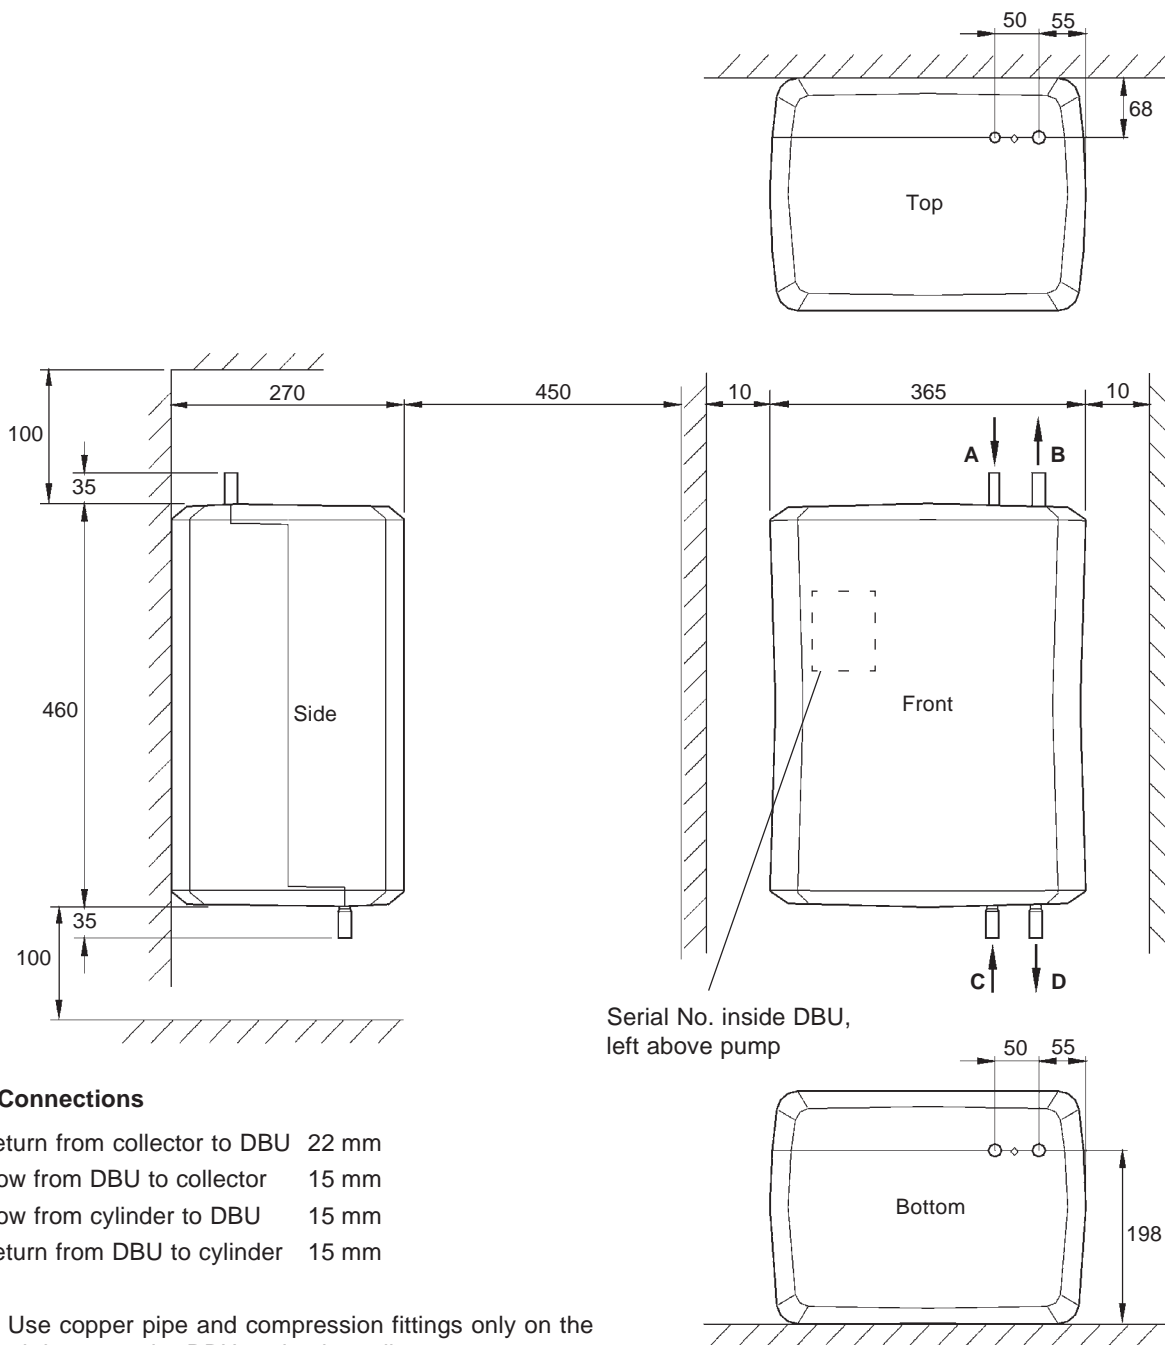

Fig. 6
3.5 DRAIN BACK UNIT (DBU) INFORMATION - Fig. 6
The dimensions of the DBU and clearances required for servicing are shown in Fig. 6.
The connections at the top and bottom of the DBU are shown in Fig. 6.